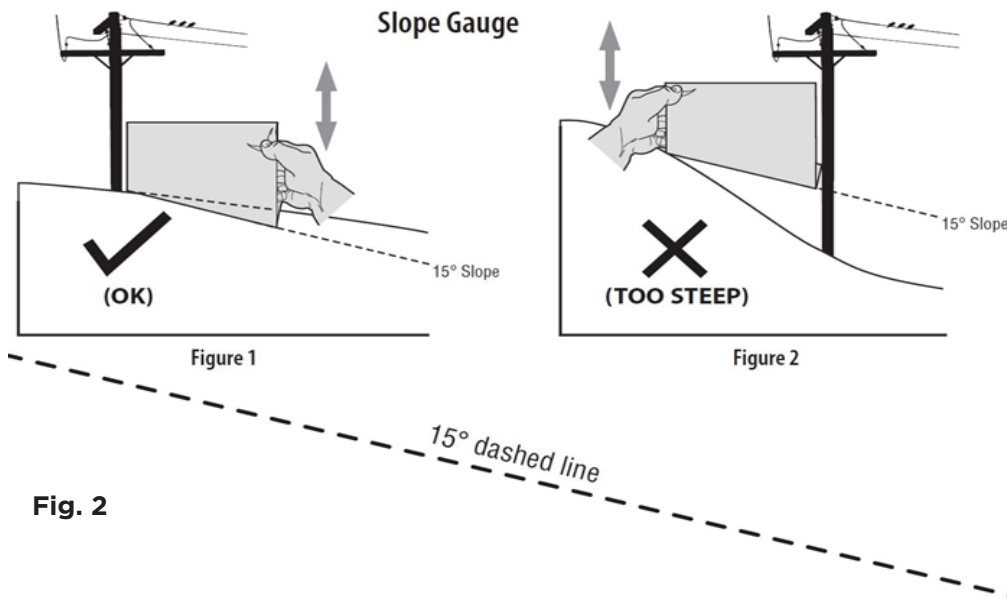

Fig. 2
3. Align either side of the slope gauge with the object (See Figure 1 and Figure 2).
4. Adjust gauge up or down until the left corner touches the slope (See Figure 1 and Figure 2).
5. If there is a gap below the gauge, the slope is too steep for safe operation (See Figure 2 above).